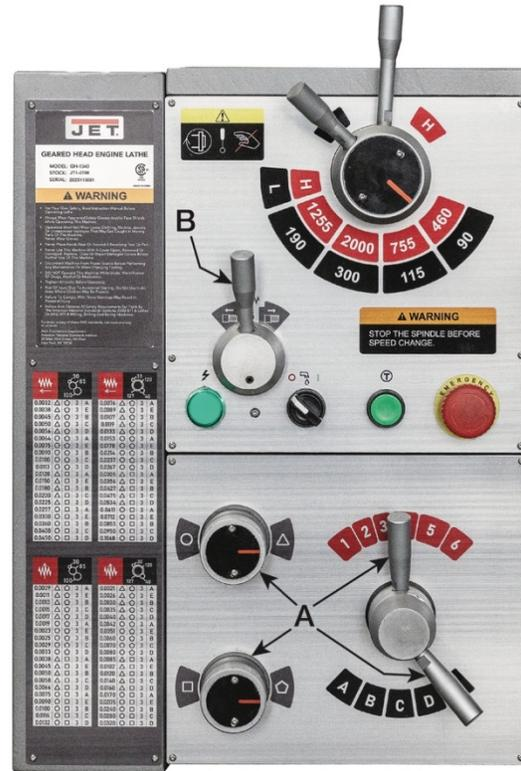

Figure 13-4
2. Set the Feed Rate/Thread Selector Dials and handles (A, Figure 13-4) to desired position.
3. Move Feed Direction Selection Lever (B, Figure 13-4) either right or left, depending on the desired direction. This starts the feed rod rotating.
1. Set the feed rate/thread selector dials and handles (A, Figure 13-4) to the desired positions. The leadscrew will start rotating. There are 31 thread pitch settings for Imperial and 26 thread pitch settings for Metric. Refer to the feed/thread tables attached to the gearbox.
2. Choose direction of thread cut by turning the feed direction selector (B, Figure 13-4) at the headstock.